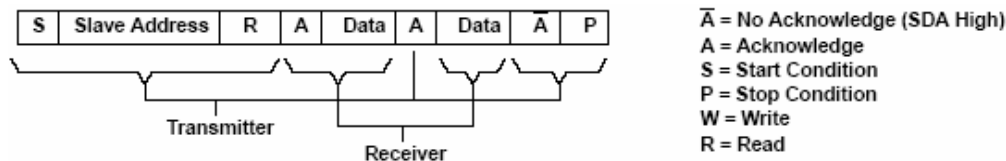
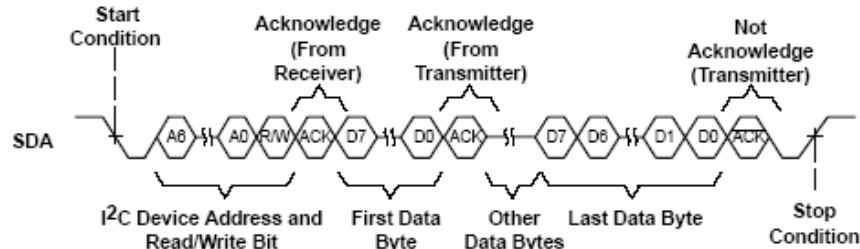

Figure 29. I²C Read Cycle
Figure 30. Multiple Byte Read Transfer
During a read cycle, the slave receiver will acknowledge the initial address byte if it decodes the address as its address. Following this initial acknowledge by the slave, the master device becomes a receiver and acknowledges data bytes sent by the slave. When the master has received all of the requested data bytes from the slave, the not acknowledge (A) condition is initiated by the master by keeping the SDA signal high just before it asserts the stop (P) condition. This sequence terminates a read cycle as shown in Figure 29 and Figure 30. See Example – Reading from the SN75DP139 section for more information.
The SN75DP139 operates using a multiple byte transfer protocol similar to Figure 30. The internal memory of the SN75DP139 contains the phrase "DP-HDMI ADAPTOR<EOT>" converted to ASCII characters. The internal memory address registers and the value of each can be found in Table 3.